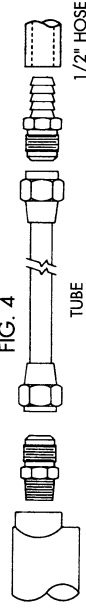

FIG. 4
3. (a) Coolers with metal line kit - install fitting in sandwich adapter as shown in FIG. 4. (b) Install 1/2" SAE flare x 1/2" hose barb fitting on lines. Use back-up wrench to avoid damage to lines.